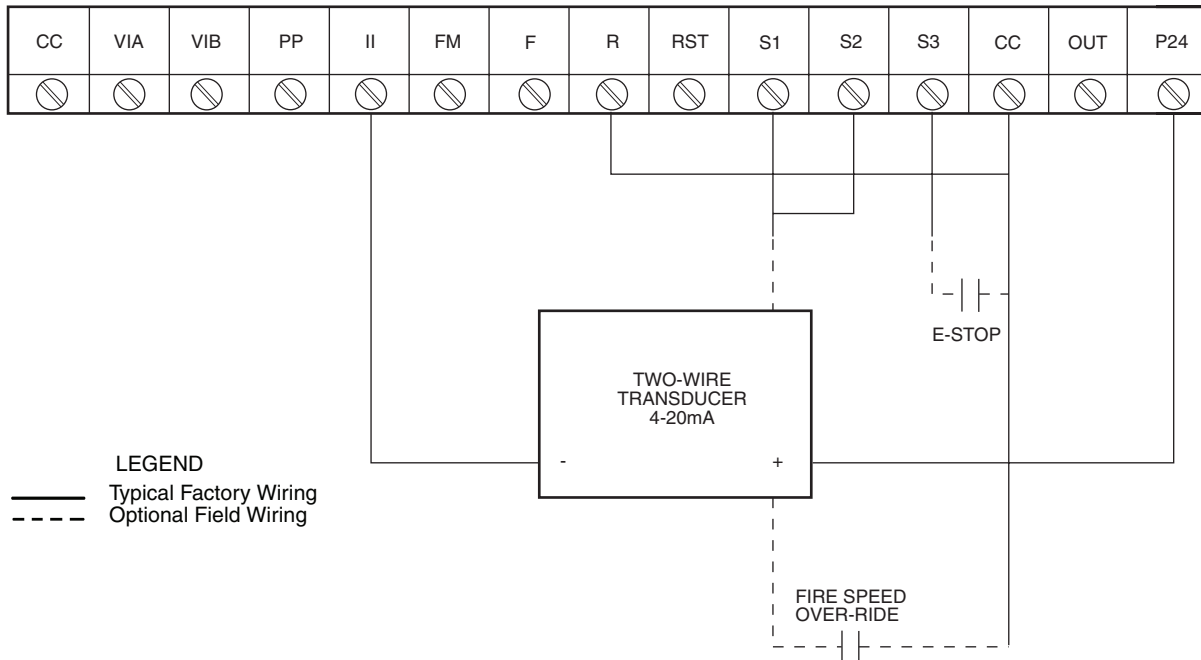

Fig. 58 — Toshiba TOSVERT VF-S9 VFD Factory-Installed Jumpers
3. Remove jumper between R and CC on the terminal block and replace the VFD cover. This will disable the running of the VFD. Refer to Fig. 58.
- b. Connect the field-supplied speed reference (4-20 mA) signal across terminals II and P24. See Fig. 58.